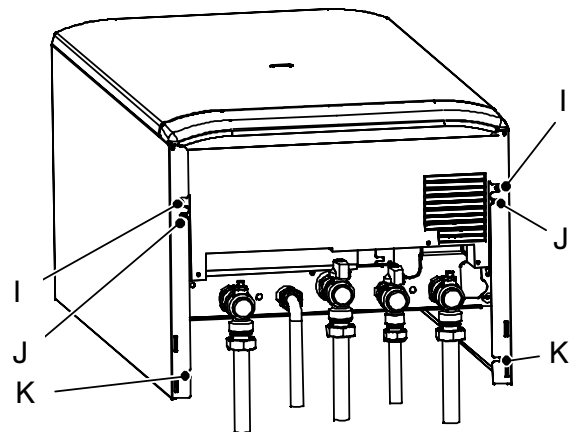

Fig. 6.12
- 2 Remove the screws I and J (Fig. 6.12).